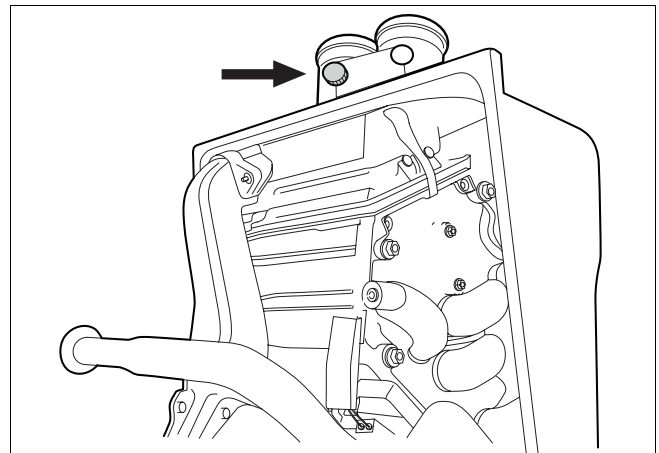

Fig. 10 Flue gas sampling point
- ▶ Measure the carbon monoxide content on the flue gas sampling point (→ fig. 10).